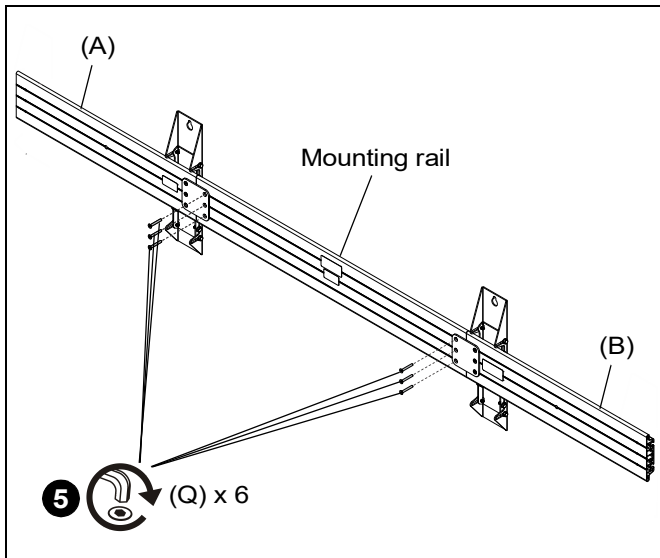

Figure 5
5. Reinstall the six 10-24 x 3" hex screws (Q) removed in Step 3 into the front sides of the right (A) and left (B) extrusion assemblies. (See Figure 5)